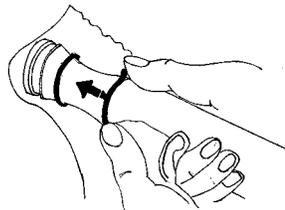

Figure 16.
7	Carefully remove the two (2) O-Rings from their grooves and slide them to the narrow area of the Plunger. See Figure 16. TIP: Use a paper towel to squeeze the O-Ring on opposite sides. This makes it easier to grab the O-Ring.